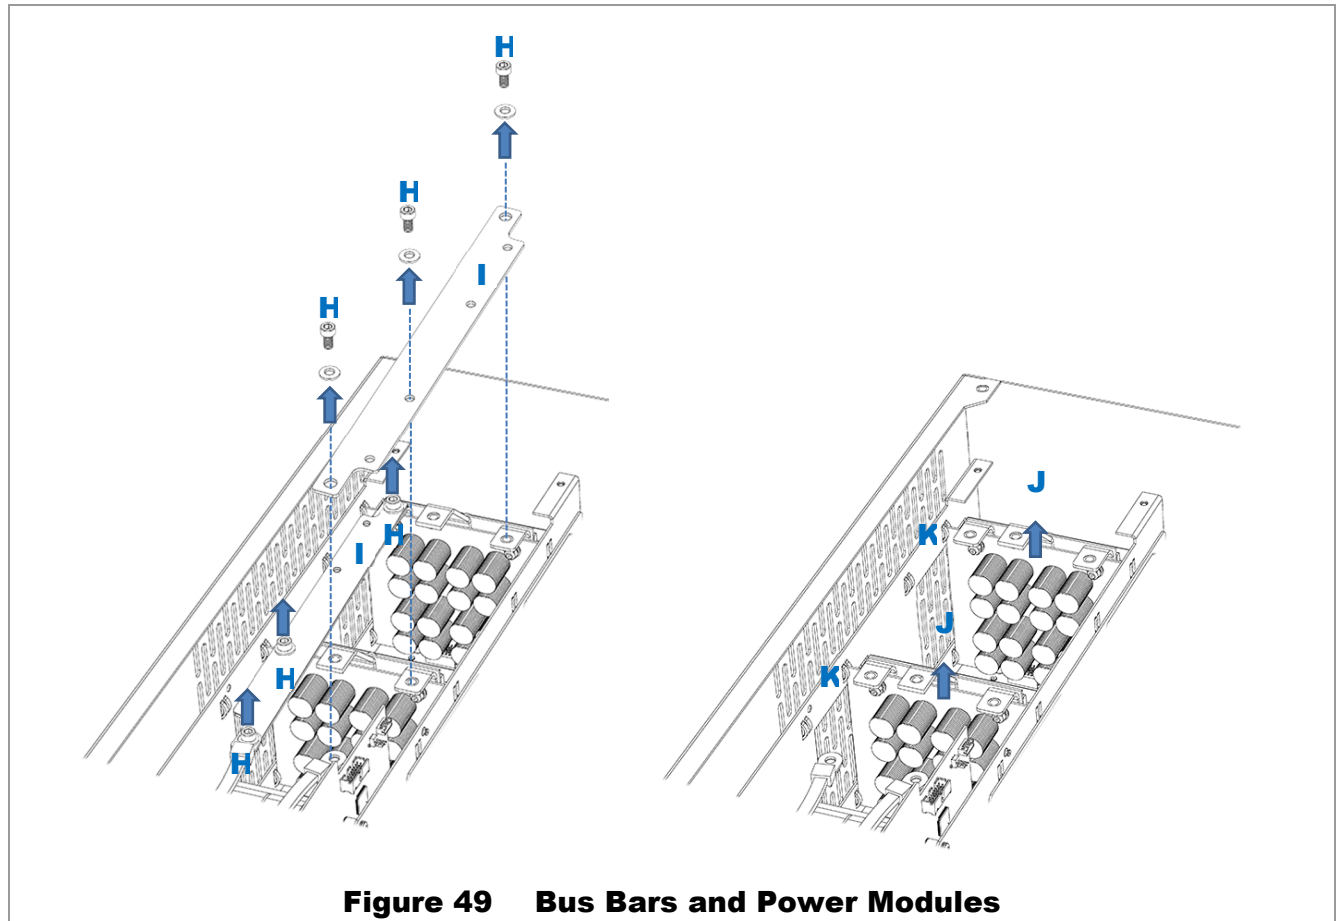

Figure 49 Bus Bars and Power Modules
6. Using a 5 mm hex (Allen) wrench, remove bolts for bus bars. See all items **H** in Figure 49. Remove the two bus bars **I**.
7. Remove the power module to be replaced. Pull upward to unsocket the module. See **J** in Figure 49.
- Insert the power module into its slot. Ensure that the new board is slotted into the card guides **K**. (See Figure 49.) Ensure it is seated firmly.
- Replace bus bars **I**. Replace bolts **H**. Tighten to a torque value of 60 in-lb (6.8 Nm). See Figure 49.